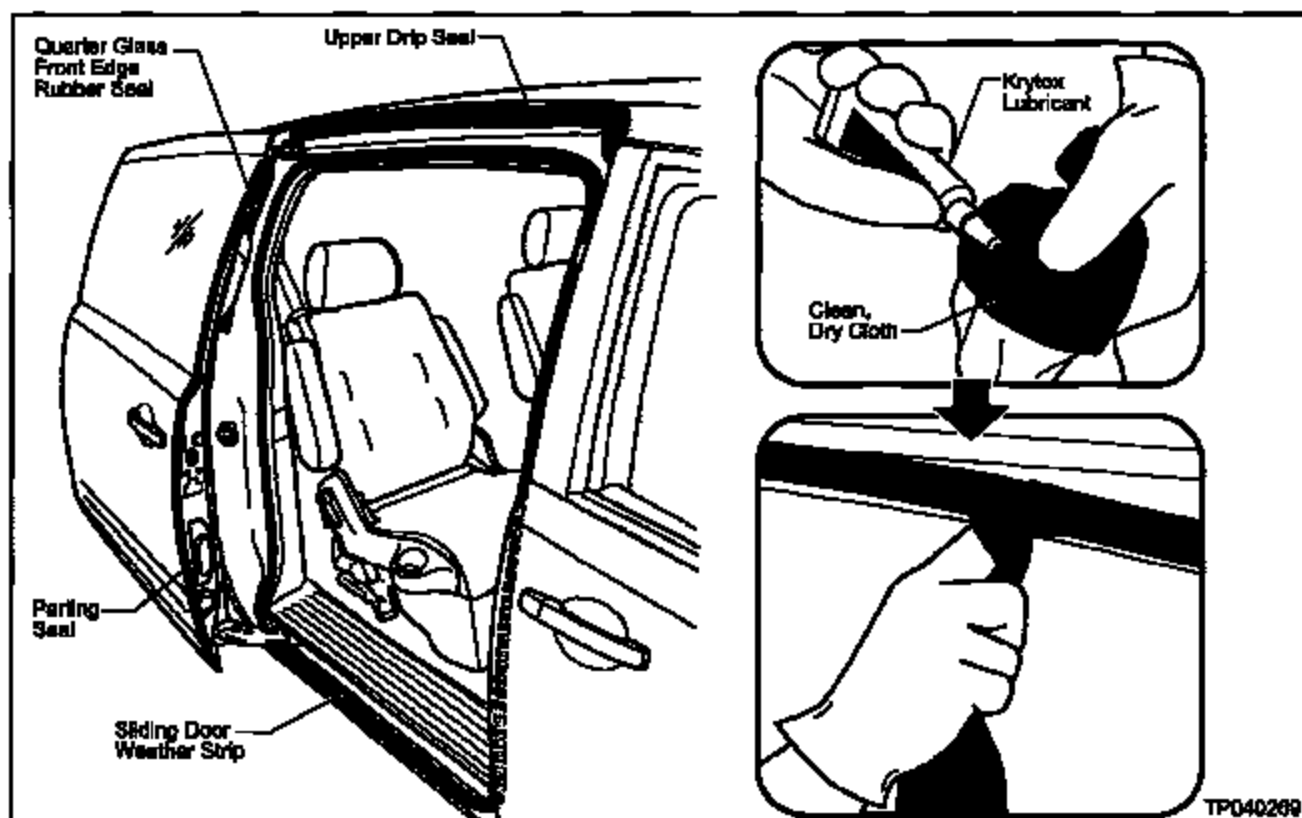

Figure J35
47. Use a clean, dry towel to remove all dirt/debris from (See Figure J35):